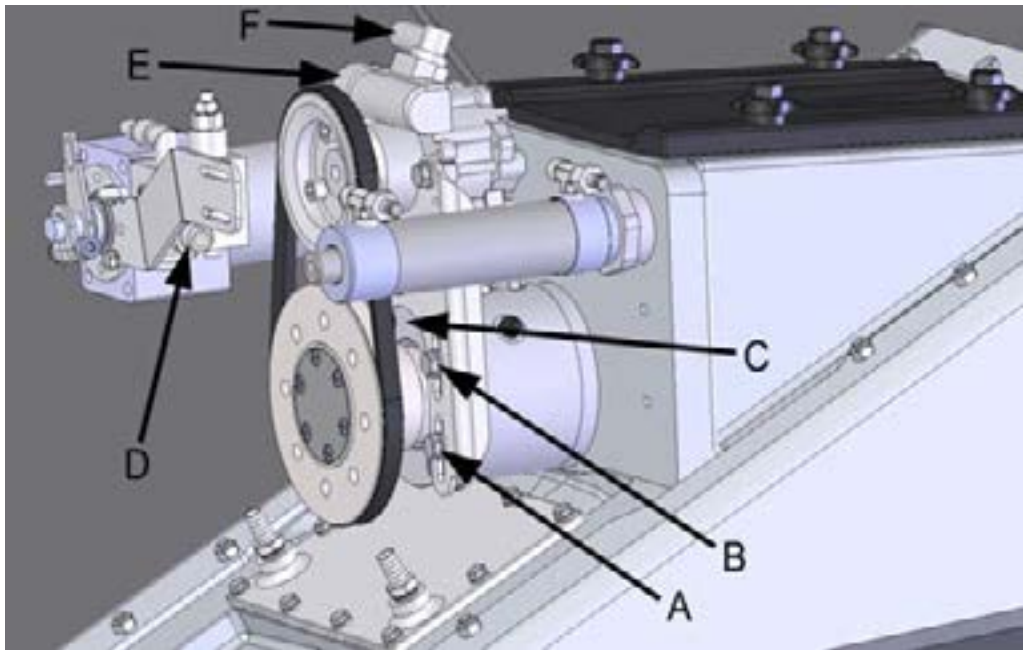

Figure 31. Attaching the hydraulic pump
There are a total of four screws, two on both sides (figure 31, points A and B).
3. Lift the rack by cranking it from point C indicated in figure 31.
5. Install the pressure hose to connectors D and E (figure 31).
6. Install the reservoir hose to connector F (figure 31).